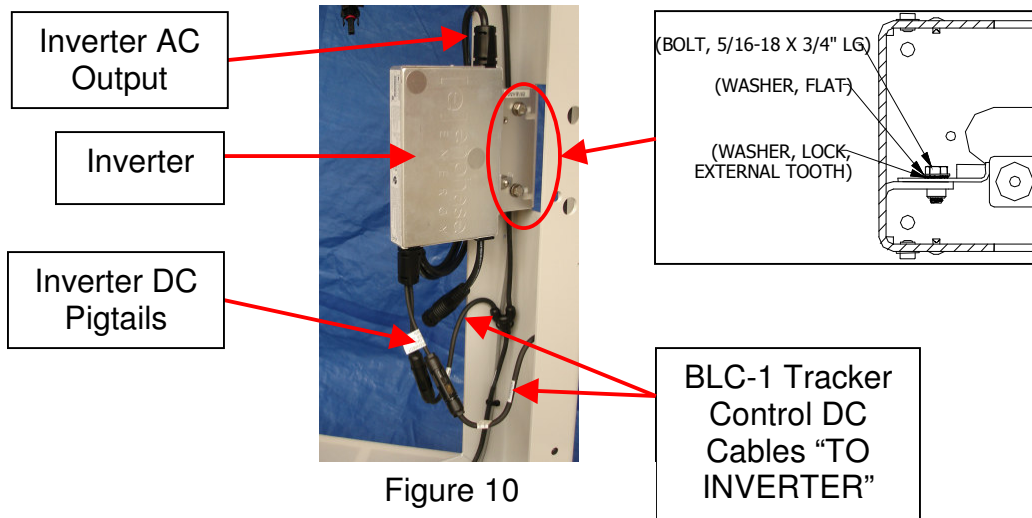

Figure 10
1. Attach the micro-inverter (purchased separately) to the frame using Inverter Mounting Hardware from SPT2170 kit. Orient as shown in Figure 10.
2. Connect the BLC-1 Tracker Controller DC Cables (labeled “TO INVERTER”) to the inverter DC pigtails. See Figure 10.